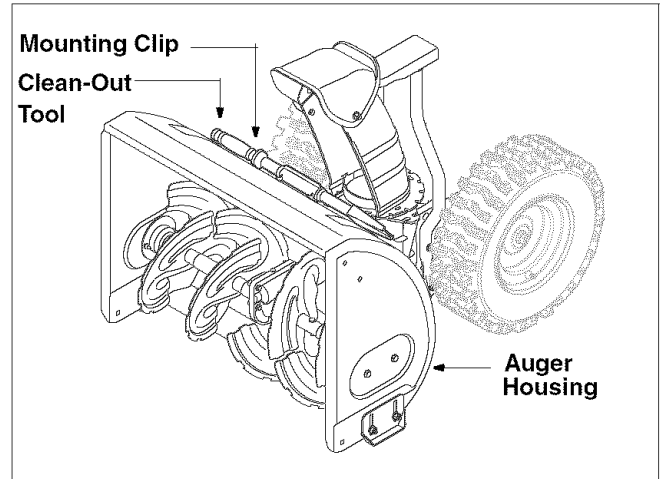

Figure 14
3. Remove the clean-out tool from the mounting clip. See Figure 14.